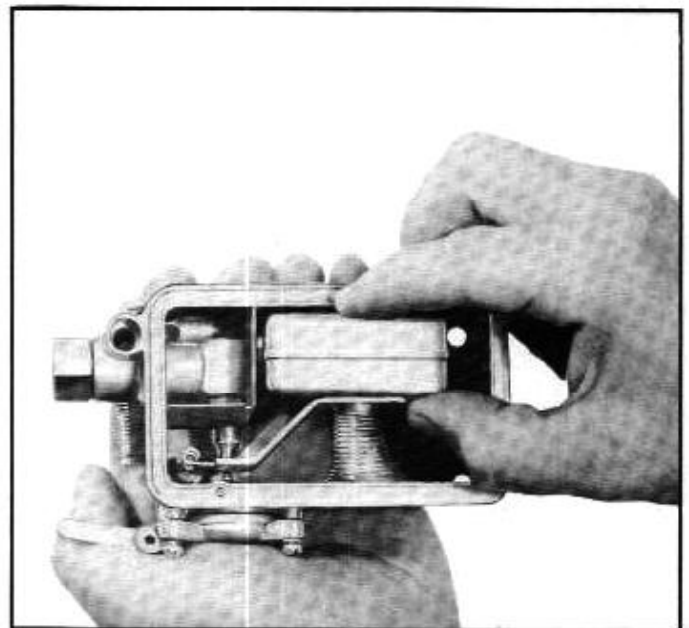

Fig. 9D-24—Removing Primary Float and Hinge Retainer
4. Remove four secondary fuel bowl screws and washers. Discard the washers. See figure 9D-22.